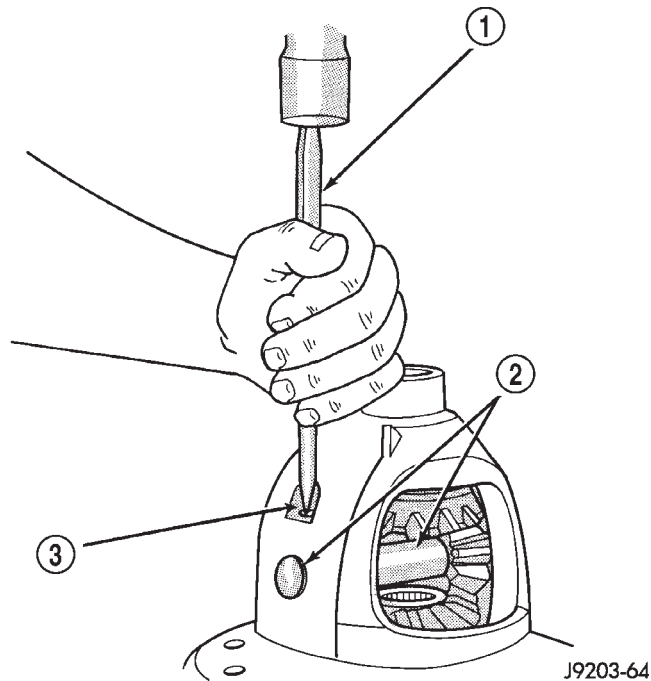

Fig. 69 Mate Shaft Roll Pin Installation
(3) Install the pinion gear mate shaft. Align the roll pin holes in shaft and the differential case.
(4) Install the roll pin to hold the pinion mate shaft in the differential case (Fig. 69).